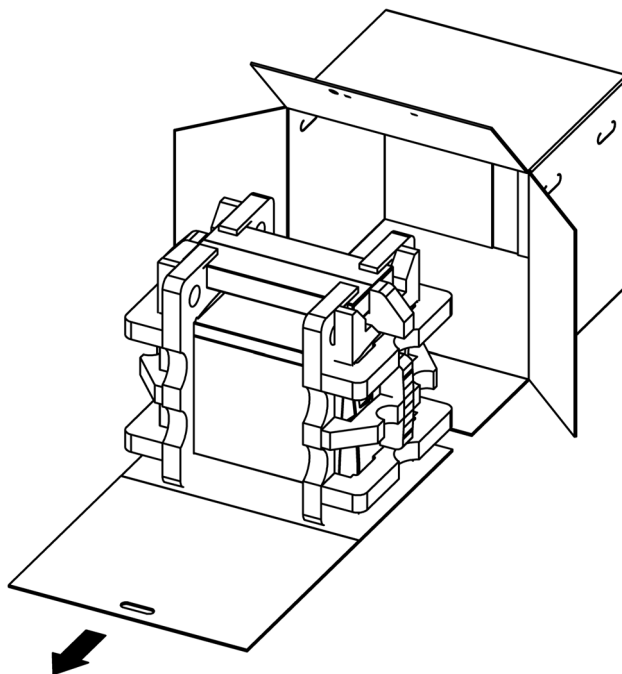

Figure 1-2 Sliding the Instrument Out of the Box
3. Grasp the handle and slide the instrument out of the box (Figure 1-2).